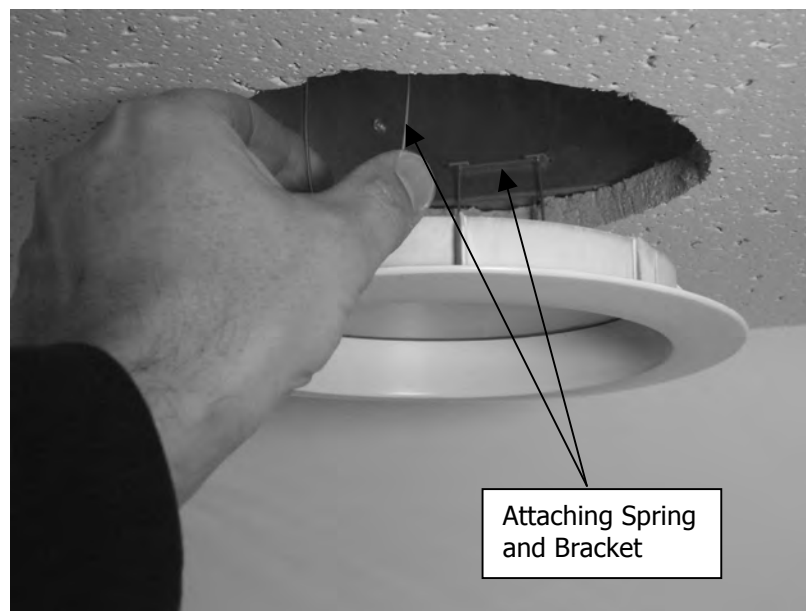

Figure 6: Trim Ring with Attachment Spring and Bracket
- From the room side of the ceiling tile, attach the Trim Ring by squeezing the spring wires together and attaching to the brackets in the light chamber. See Figure 6.